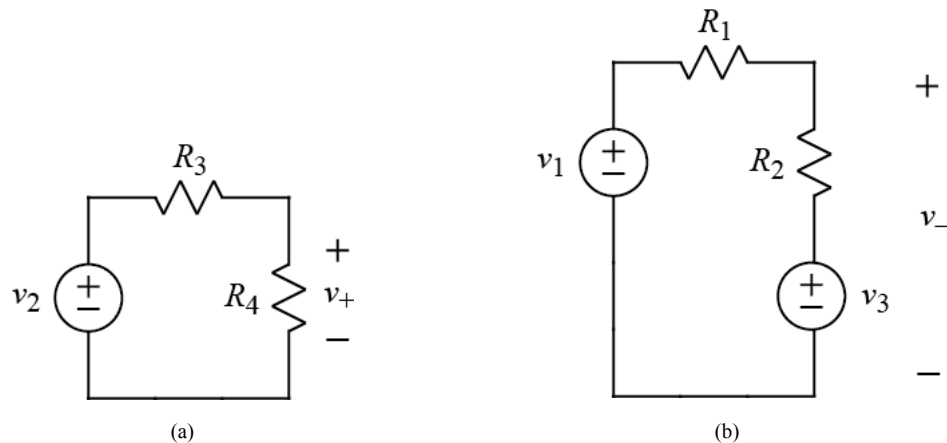

Figure 12. Sub-circuits for analyzing differential amplifier: (a)  $v_+$  value, (b)  $v_-$  value.
1) Use the circuit model in Fig. 12 and the voltage-divider formula to find voltage drop  $v_+$  across  $R_4$ .
2) Use the circuit model in Fig. 12 and Kirchhoff's and Ohm's law to find voltage drop  $v_-$  across  $R_2$  and  $v_3$ . In other words,  $v_-$  is the sum of the voltage drops across  $R_2$  and  $v_3$ .